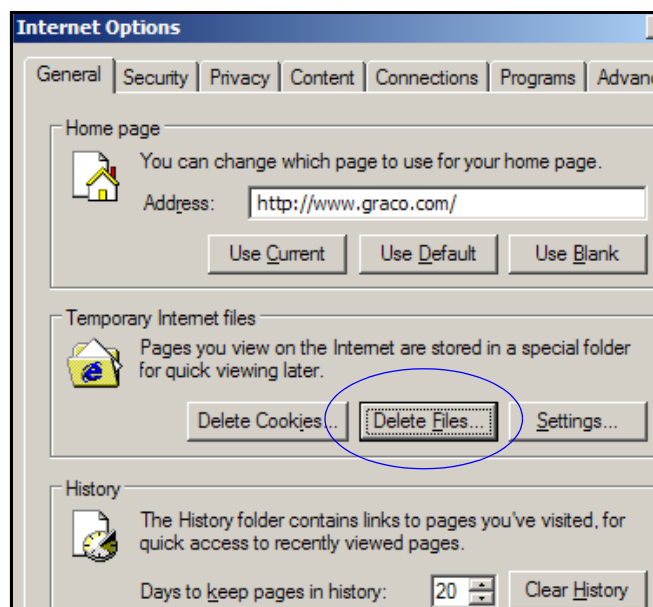

FIG. 10 Internet Options General
1. In the Temporary Internet Files section of the Internet Options box, click **Delete Files**. Select the **Delete All Offline Content** check box. Click **OK**. See FIG. 10.